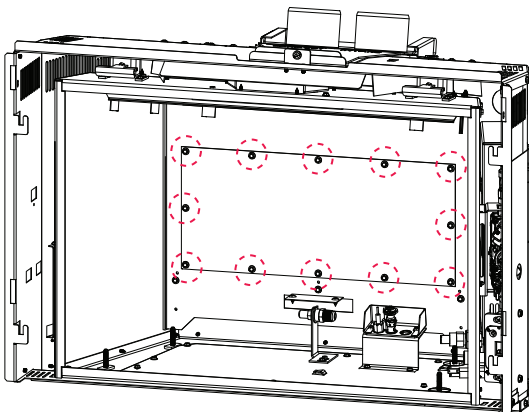

Fig. 8-4
- D. Remove the first blower access panel by removing the 12 screws (**Fig. 8-4**).